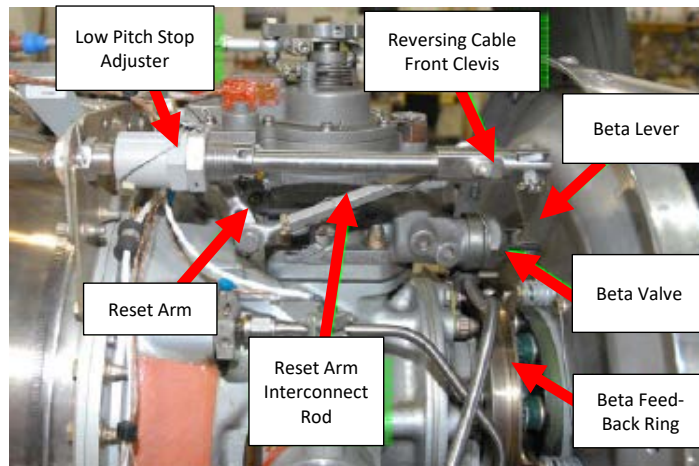
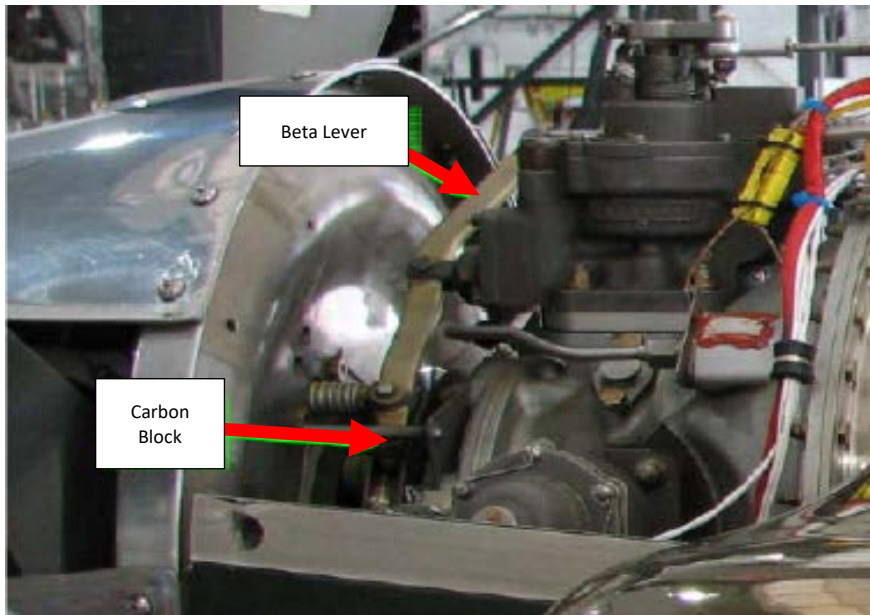

Figure 76-26 - Front Linkage Feature Terminology (Right Side)
Figure 76-27 - Front Linkage Terminology (Left Side)
- A. Once the cambox idle relationship between the cockpit and the cambox has been established, the connection between the cambox and the beta valve, and the connection between the cambox and the FCU can both be set. For purposes of consistency beta valve rigging will be accomplished before moving to the FCU rigging. In the steps that follow, refer to **Figure 76-26** and **Figure 76-27** for feature terminology.